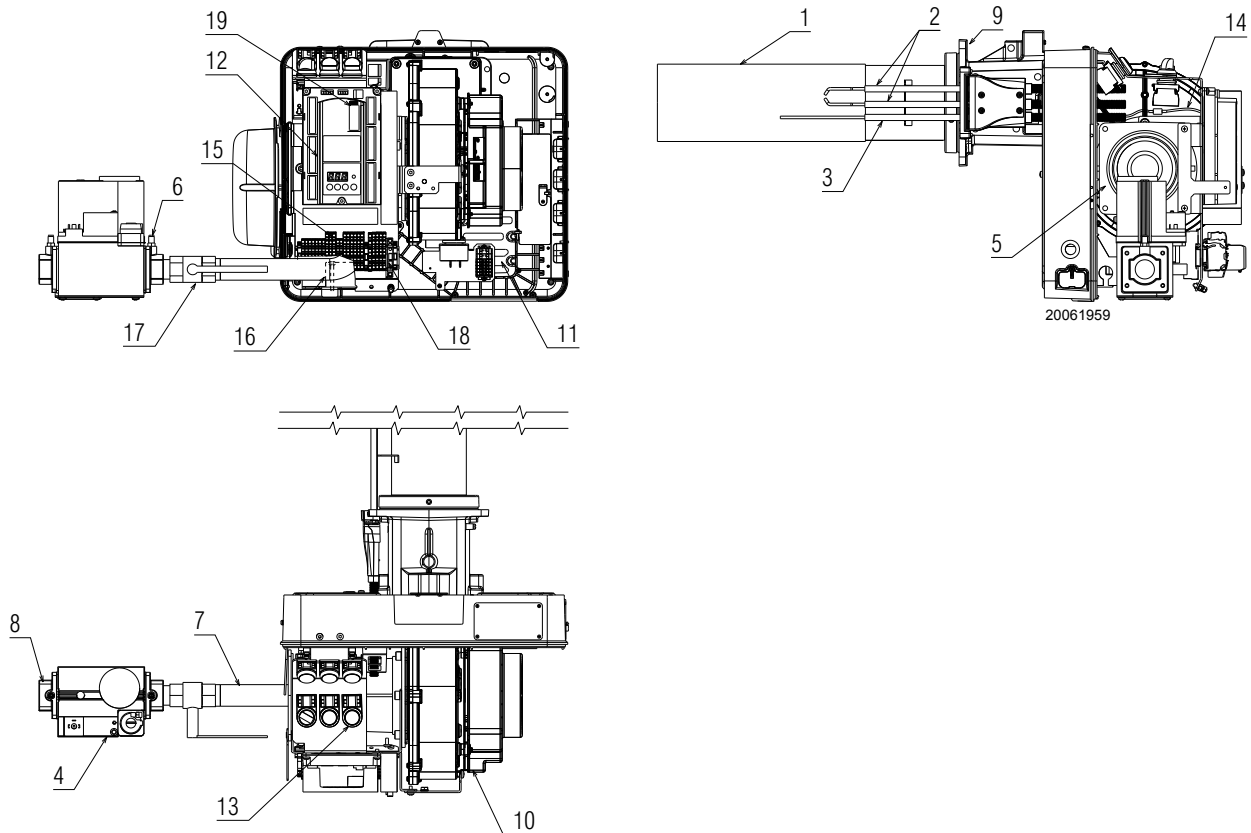

Fig. 3
- (1) Reference conditions: ambient temperature 68 °F (20°C) - Barometric pressure 394" WC - Altitude 329 ft.
(2) Pressure at test point 6)(Fig. 3 at page 9) with zero pressure in the combustion chamber and maximum burner output.
(3) Sound pressure measured in manufacturer's combustion laboratory, with burner operating on test boiler and at maximum rated output.
If the push-button 13)(Fig. 3) lights up, it indicates that the burner is in lockout. Press the push button to reset.